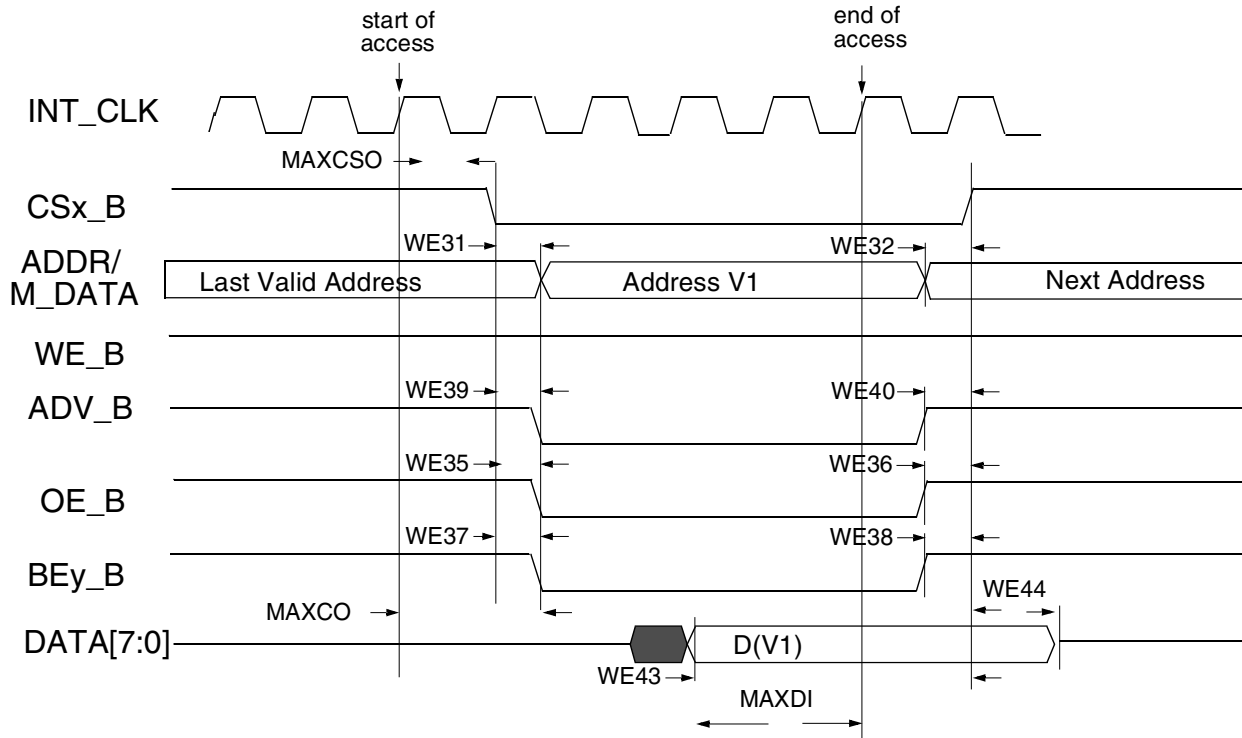

Figure 16. Asynchronous Memory Read Access (RWSC = 5)
Figure 16 through Figure 20, and Table 38 help you determine timing parameters relative to the chip select (CS) state for asynchronous and DTACK EIM accesses with corresponding EIM bit fields and the timing parameters mentioned above.
Asynchronous read & write access length in cycles may vary from what is shown in Figure 16 through Figure 19 as RWSC, OEN & CSN is configured differently. See the i.MX 6SoloLite reference manual for the EIM programming model.